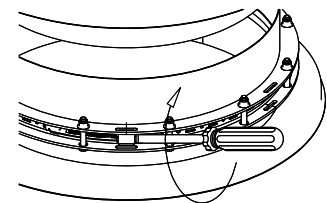

Figure 54 - Adjustable length, INSTALLATION STEP C
- Tighten the compression band so that the graphite packing is firmly registered against the inner flue. See **Figure 54**.